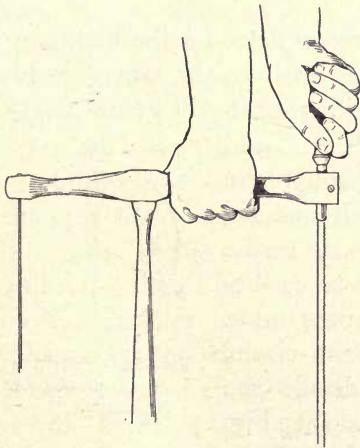

FIG. 85.—METHOD OF HOLDING A TURNING SAW.
5. **Cutting the circle.** — There are two methods of cutting the circle. If you have a turning saw, use it and saw about  $\frac{1}{16}$ " outside the line, holding the saw as illustrated in Fig. 85. Then it is necessary to smooth the edge